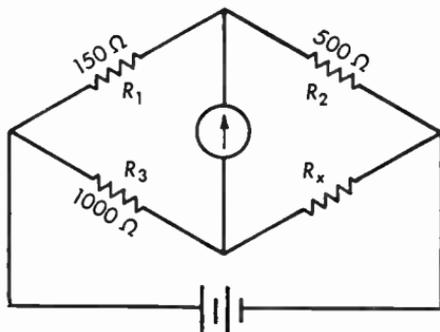

Fig. 12.01 Wheatstone bridge, as used to measure unknown resistances.
12.01 In Figure 12.01 find the value of the unknown resistor R_x .